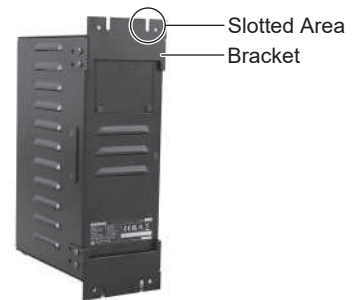

Fig. 23
- The Bracket can be installed on the " Bottom Mounting (Fig. 22) " and " Rear Mounting (Fig. 23) " of the CONTROLLER.
(1) Attach the Installation Brackets (2pcs.) using the provided mounting screws. (4pcs.)
(2) Attach the CONTROLLER (Bracket's Slotted Area) to the machine using the provided mounting screws.